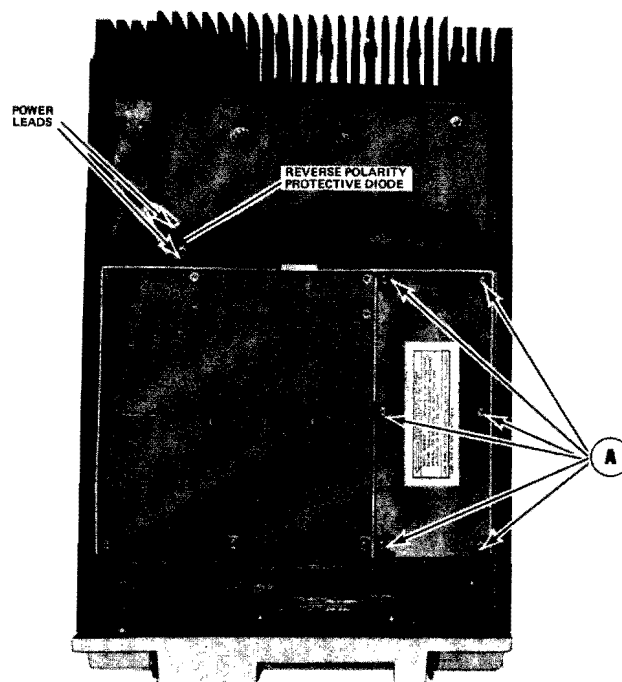

Figure 6 - Disassembly Procedure
1. Unplug the exciter/PA cable (B).
2. Remove the six screws (A) holding the exciter board and its bottom cover to the module mounting frame (see Figure 6).